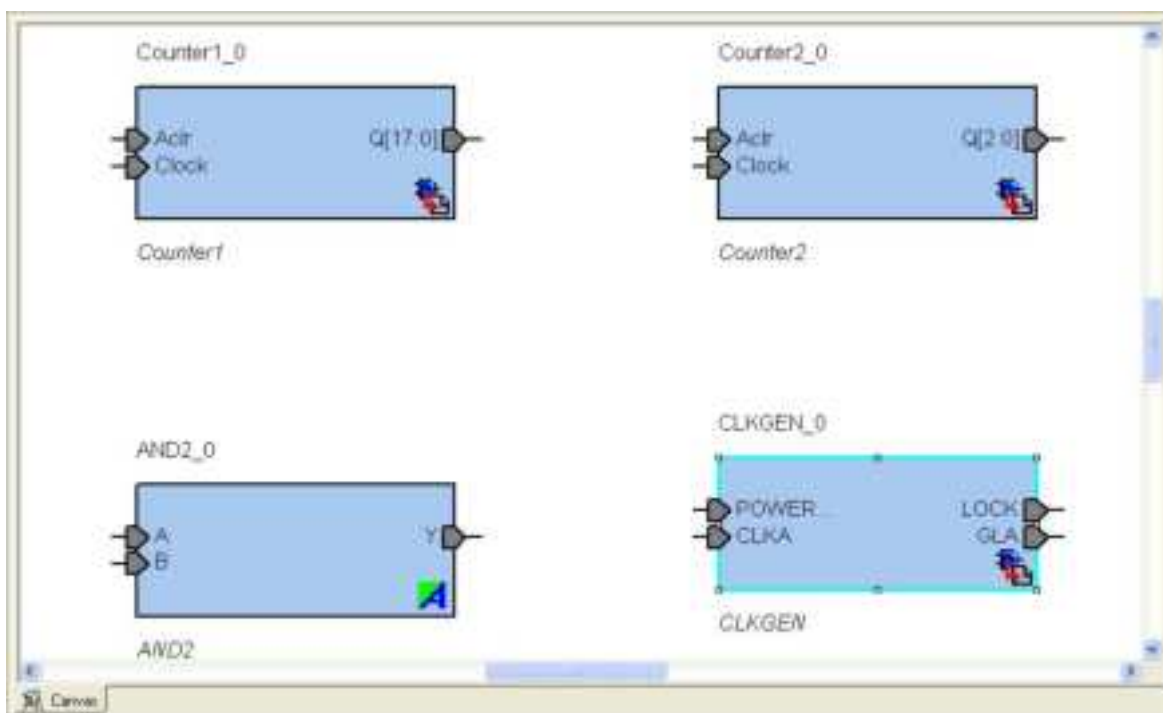

Figure 1-16 • SmartDesign Canvas with Components
8. In the **Canvas** menu, choose **Auto-arrange Instances**. After adding and arranging the components the SmartDesign Canvas resembles Figure 1-16. Click and drag your components to arrange them if you are not satisfied with the auto-arrange.